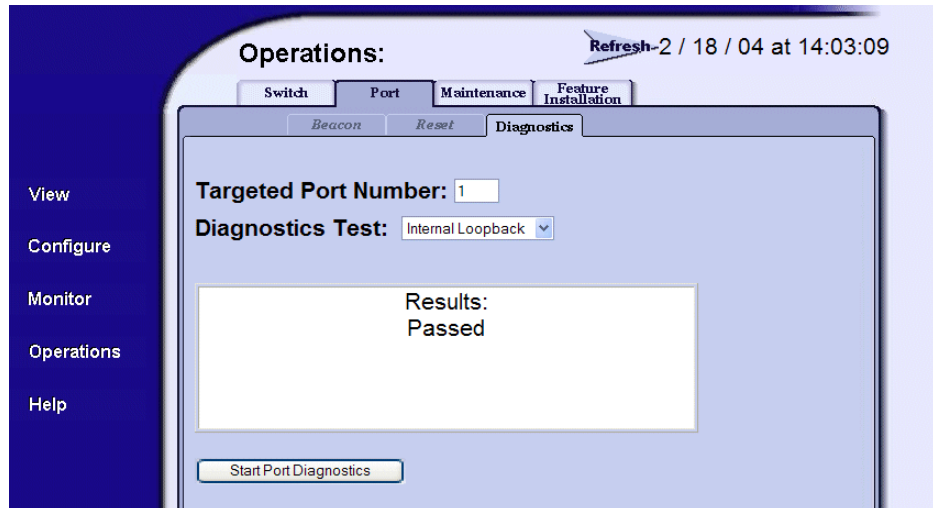

Figure 49: Completed diagnostics test
5. Results display when the diagnostics finish or when you terminate the test. If errors occur, record all error information and refer to the product service documentation for problem isolation. See Figure 49 for an example of the screen when tests are completed.